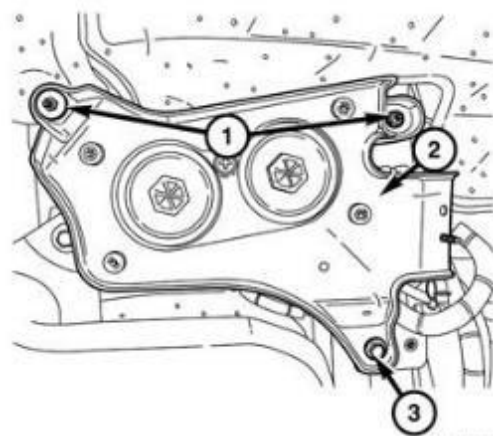

Figure 42 – Fuel Filter/Water Separator
98. Remove the nuts (1), bolt (3), and the fuel filter/water separator assembly (2) (Figure 42).
109. Install the fuel filter/water separator assembly (2) to the vehicle. Tighten the two nuts (1), and one bolt (3) to 20 N·m (15 ft. lbs.) (Figure 42).